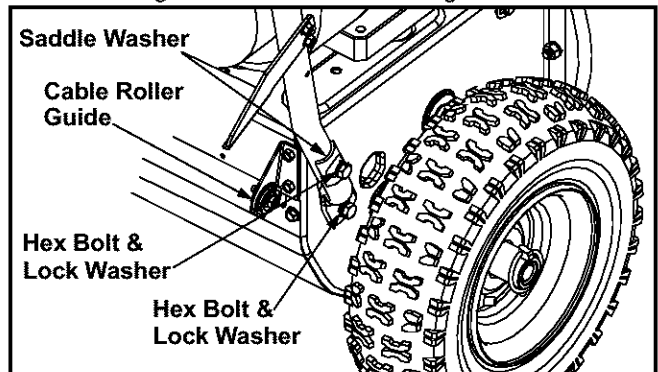

Figure 5
- Make certain all cables are in the grooves of the cable roller guides located in the lower rear of the unit, one on each side. See Figure 5.
- Insert hex bolt and lock washer through these holes to secure the handle to the snow thrower housing. Do not tighten at this time. See Figure 5.
- Place saddle washer over upper holes on handles and secure to the frame with lock washers and hex bolts. Do not tighten now. See Figure 5.
- Make certain all cables are in the grooves of the cable roller guides in the lower rear of the unit, one on each side. Refer to Figure 5.